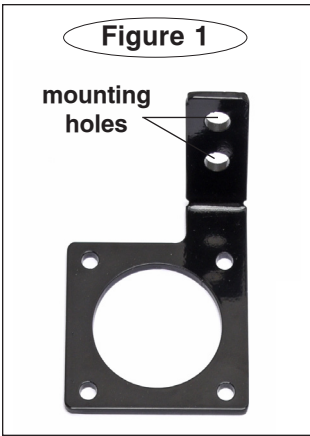

Figure 1
2. Choose a location near the battery for the switch mounting bracket (Figure 1). This bracket can be used in many different orientations. Choose one that best fits your application. This mounting location must meet the following conditions: